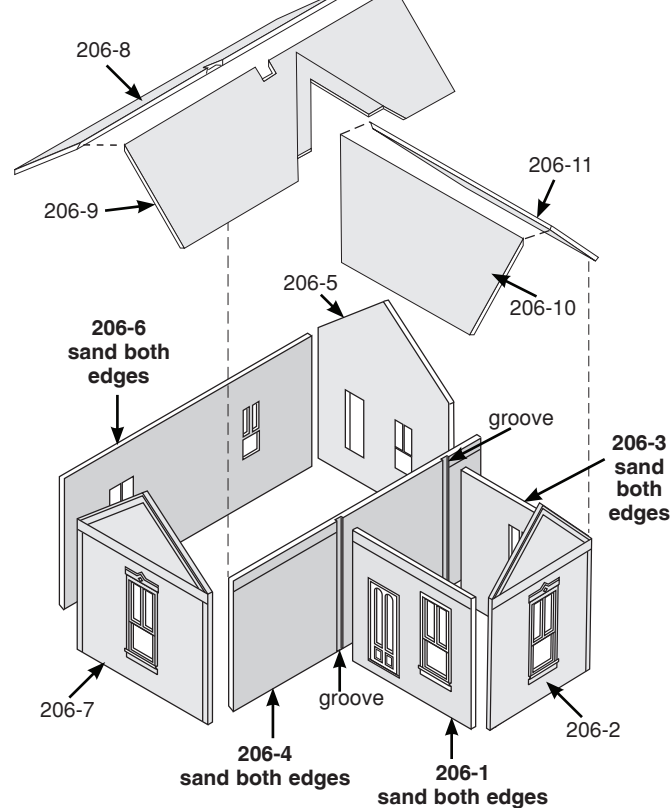

Fig. 2
**Front Porch Assembly:** Test fit all Porch pieces before installing. Notch or trim pieces as needed to fit flush against building. Bend Porch Posts straight if curved. Glue Front Porch Floor 206-12 to Wall 206-5 flush with bottom edge of Wall. Using Porch Posts 206-16 and 206-17 as a height guide, glue Front Porch Roof 206-13 to Wall 206-5. Glue Porch Posts 206-16 and 206-17 on the corners of the porch as shown (Fig. 2).
Insert the Roof from the underside of building, gluing it to the bottom of the chimney back(s). Using the included Roof Support Material, cut support strips. Supports should be shorter than the width of the walls. Glue Supports to set flush on each wall and underside of Roof (where Roof and Wall meet). (**Fig. 2**) **NOTE:** If no Roof Support Material is included, glue Roof to the bottom of the Chimney Backs.